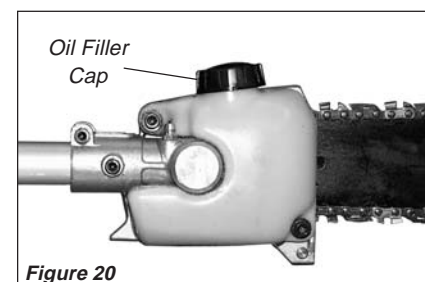

Figure 20
- Place the pole pruner on a clean, flat surface with the oil filler cap facing up. See Figure 20. Wipe off any debris from the oil cap and from around the oil filler neck.